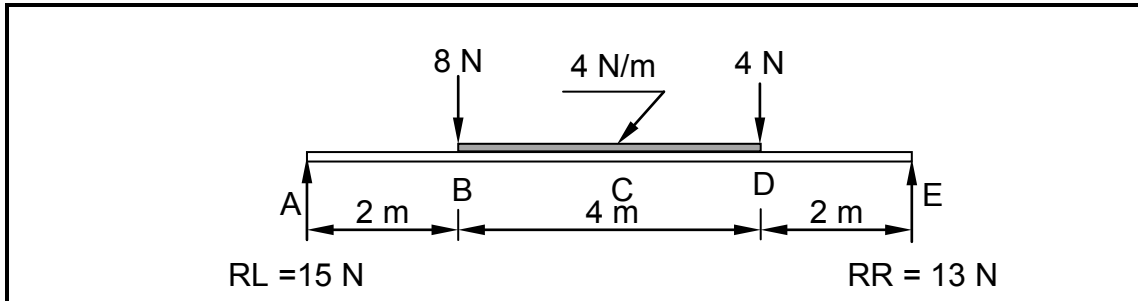

FIGURE 5.3
- 5.3 FIGURE 5.3 shows the space diagram of a beam with a span of 8 metres with two point loads and a uniformly distributed load. Study the diagram and answer the questions that follow.